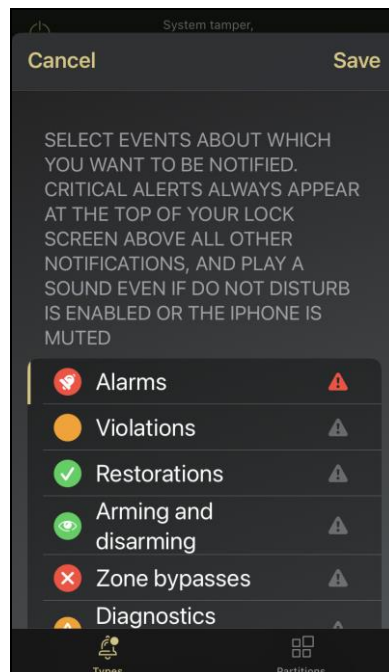

Fig. 26. INTEGRA CONTROL application. “Notifications” screen. Configuration of push notifications settings.
2. Tap the event types that you want to be notified about (they will be highlighted in yellow on the left) (Fig. 26).